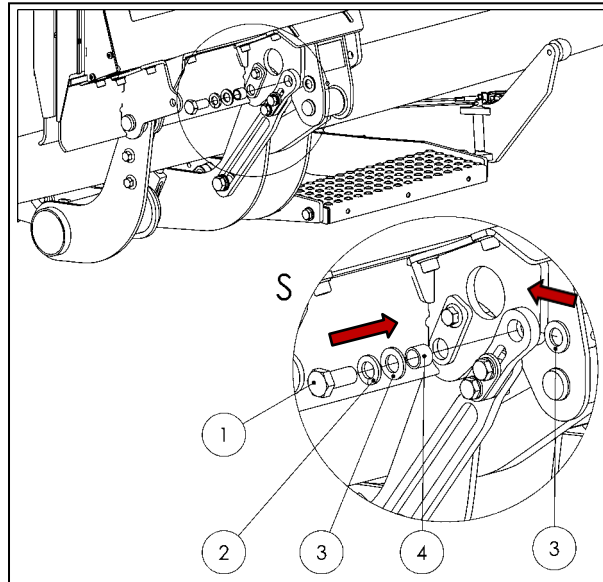

Figure 64
- Mount the screw (1) for the platform lock, including the spring washer (2), washers (3), and sleeve (4), on the platform bearing (see Fig. 64).